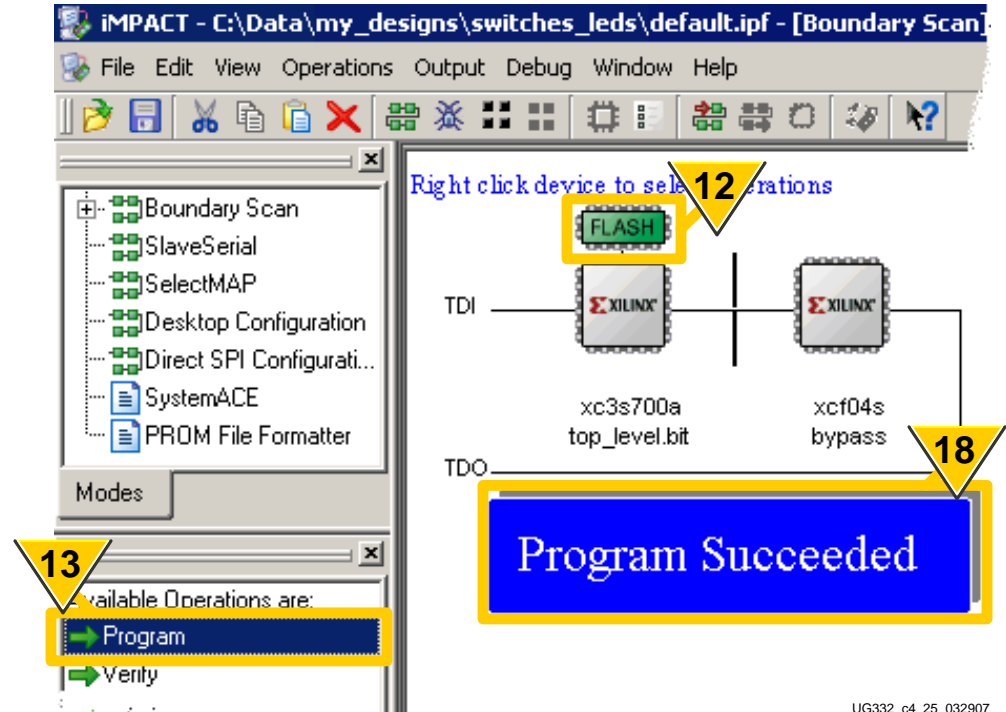

Figure 4-27: iMPACT Presents JTAG Chain, Shows Attached Flash PROM
12. As shown in Figure 4-27, the iMPACT software then displays the JTAG chain for the XC3S700A Spartan-3A FPGA followed by the XCF04S Platform Flash PROM. Click to highlight the **FLASH** memory attached to the XC3S700A FPGA. This action enables the command options shown in Step 13.